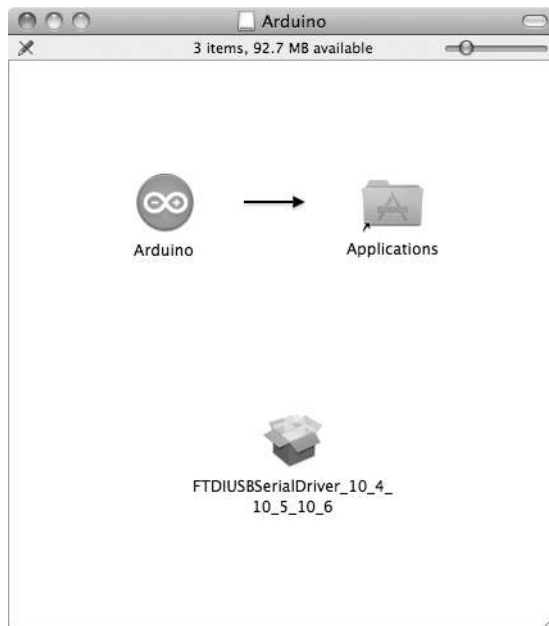

Figure 1-9: Your new Arduino IDE folder
3. Once it's finished downloading, double-click the file to start the installation process. You will then be presented with the window shown in Figure 1-9.
NOTE *The third file icon shown in Figure 1-9 needs to be installed only if you have an Arduino board older than the current Uno.*